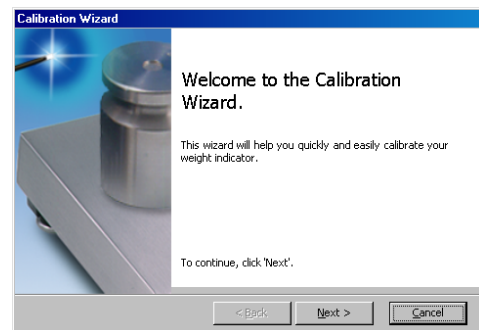

Figure 4-2. *Revolution* Calibration Display
2. *Revolution* uploads calibration data from the indicator then presents the information in the calibration wizard, as shown in Figure 4-2